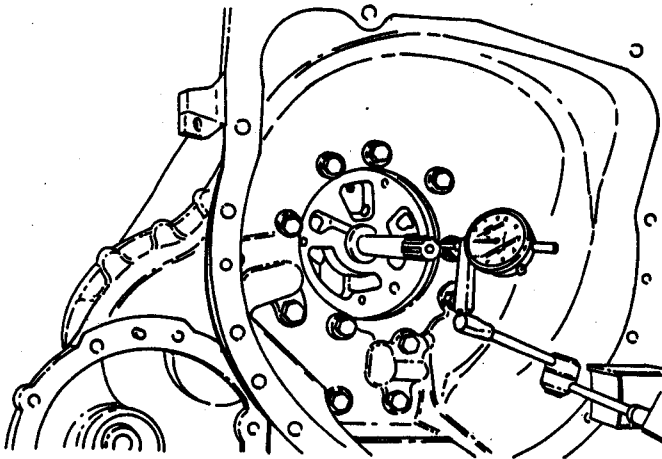

Figure 17.
10. Position transmission horizontally and measure the end float of the input clutch shaft (Figure 17), which should be 0.001-0.003 inches (0.03 to 0.08 mm). Rotate the shaft while measuring to fully seat bearings.